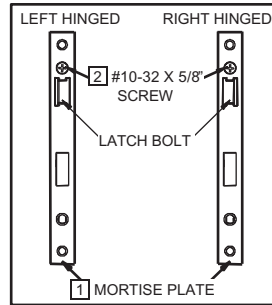

FIGURE 3
B. If the bolt orientation of the mortise plate and latch assembly matches your door go to **Step C**. If the bolt orientation is incorrect for your door, remove the #10-32 x 5/8 flat head screw and mortise plate. Rotate the latch bolt 1/2 turn (180 degrees) and reattach mortise plate to latch assembly. See Fig. 3.